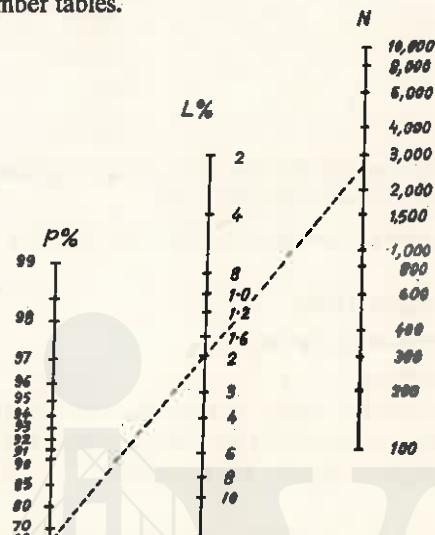

Fig. 9.18. Alignment Chart.
- (1) Rule of 1000.
- (2) Rule of thumb tables.
- (3) Alignment charts (Fig. 9.18)
- (4) Use of Random number tables.